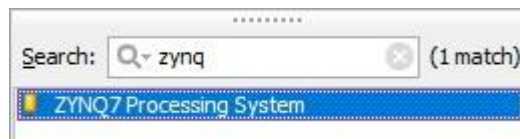

Figure 6: The IP Integrator IP Catalog.
4. In the search field, type **zynq** to find the ZYNQ7 Processing System IP, and then press **Enter** on the keyboard (Figure 6).